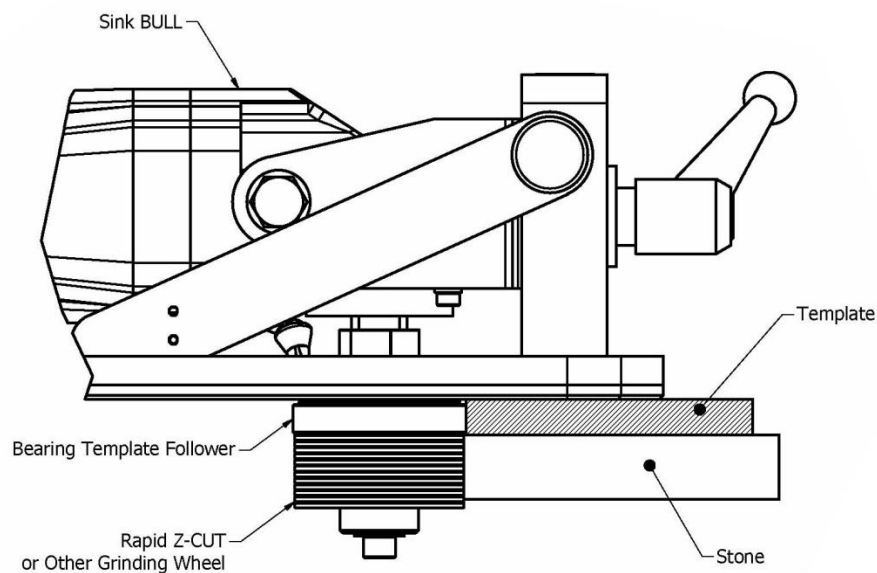

FIGURE 10 – Set Grinding Wheel Height so Bearing Rides on Template
15. Adjust the height of the grinder until the bearing is riding on the template and the grinding wheel is removing the stone (see Figure 10).